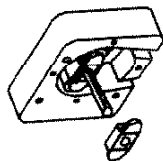
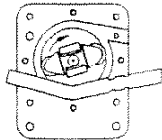

FIG. 1
FIG. 2
6. Using extra bracket (figure 1), rotate roller bracket assembly until it is in position as in figure 2. (Be sure power is disconnected)
6. Connect power and run at slowest speed until roller bracket assembly is in position as shown in figure 1.
7. Push new tubing into inlet port, anchoring tubing in grippers. If using a 9" piece of tube, 1 1/2" should be extended outside of inlet port. (figure 2)